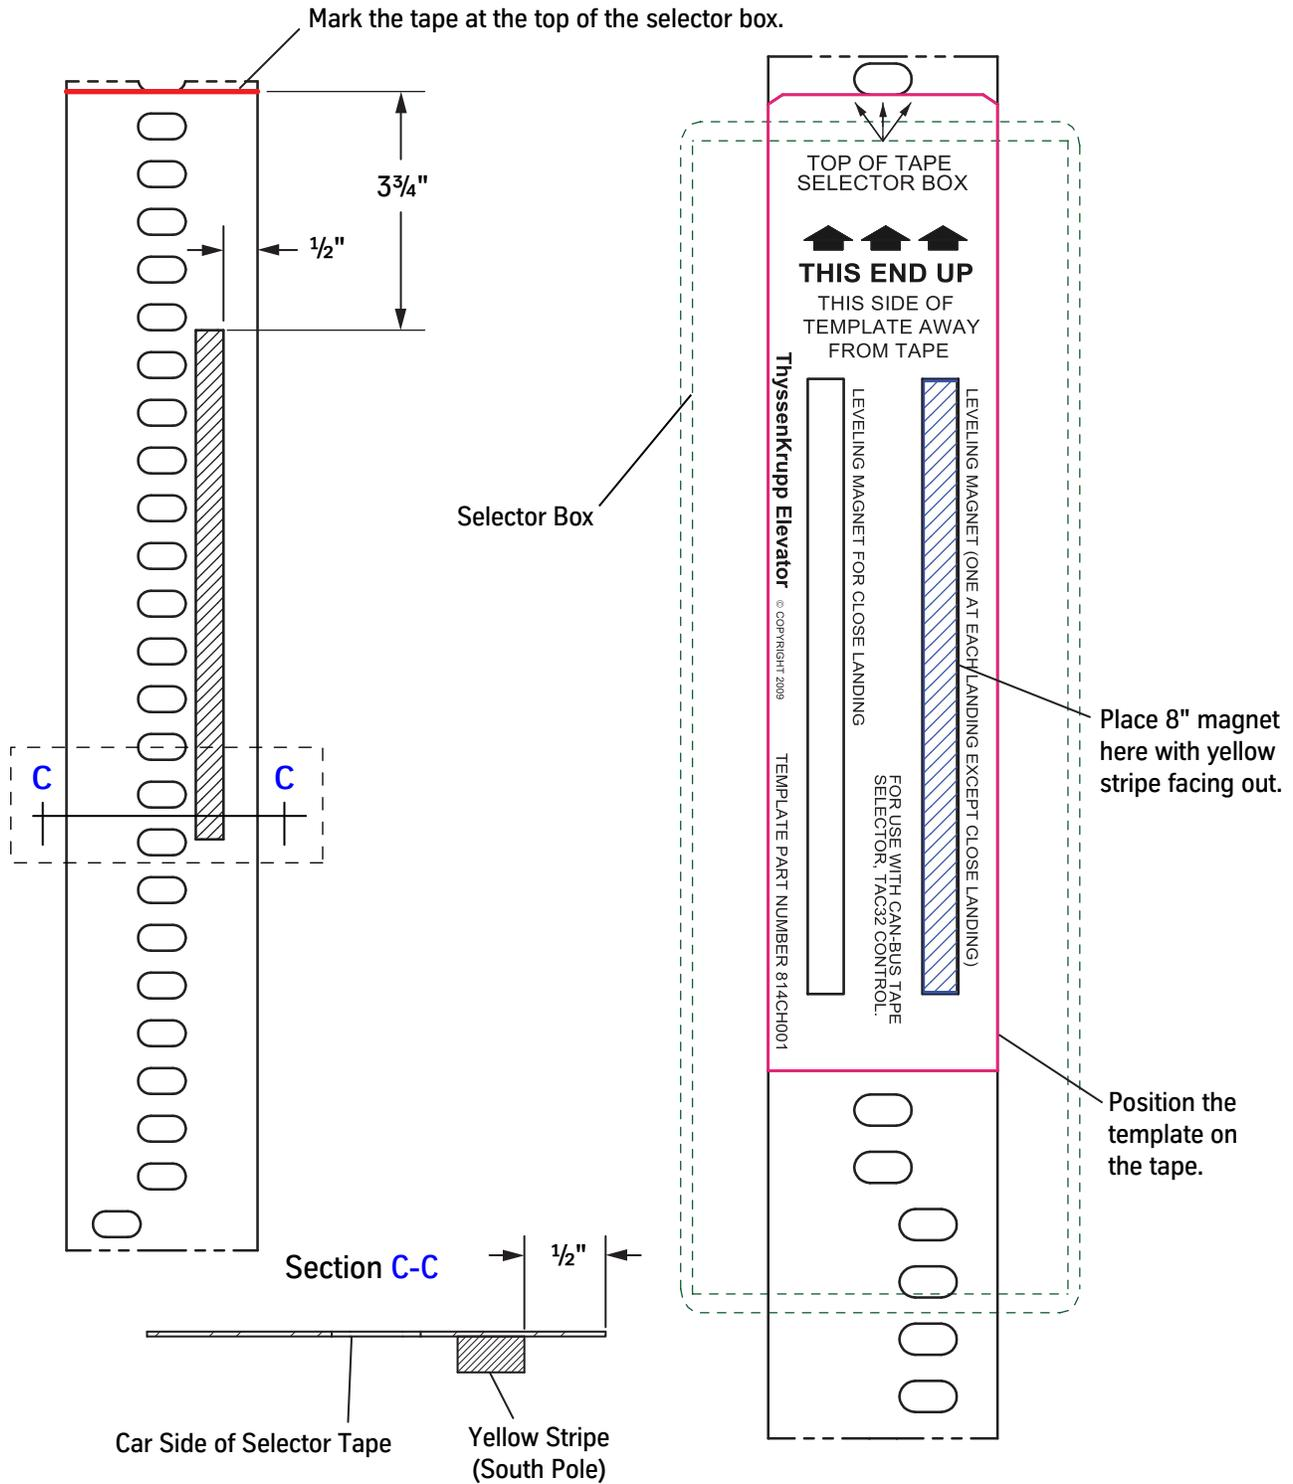

Figure 6 - Floor Landing Leveling Magnet Installation
- Floor level magnets are the only magnets placed on the front (or car side) of the tape. See Figure 6 on page 2-22.
Floor Landing - See Figure 6 on page 2-22.